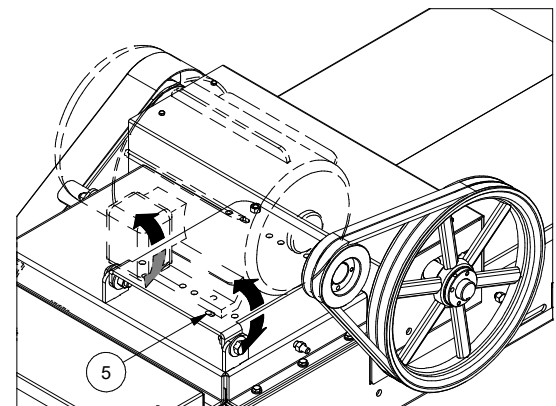

Fig 41 - Base plate bolts
8. Adjust the belt tension on the motor-side by adjusting base plate (5). See Figure 41